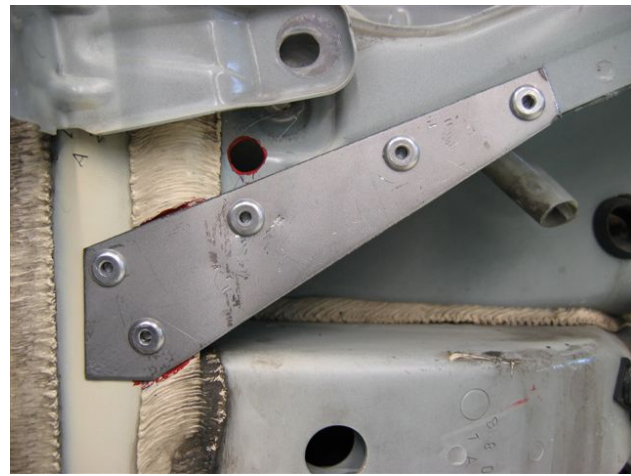

Figure 2
4. To permanently fix the water drain problem mentioned in possible cause 1, a water drain hole with reinforcement plate must be made (Figure 2).
11. Rivet the reinforcement plate (shown in Figure 2) using rivets A003 990 35 97